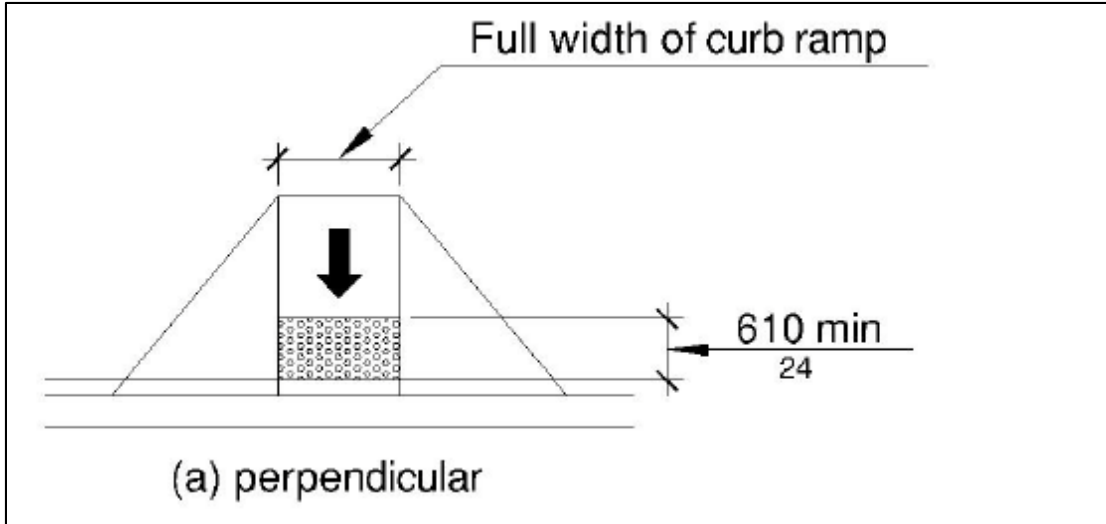

Figure 13A - Detectable Warning Surface Placement (Perpendicular Curb Ramps)
- Detectable warnings are provided on all intersection curb ramps, blended transitions, and pedestrian refuge islands along the entire length of curb removal (see **Figure 13A**)
- Detectable warnings are 2 ft. in depth (see **Figure 13A**)
- Detectable warnings are installed perpendicular to the path of pedestrian travel and appropriately placed relative to the grade break location (see **Figures 13A and 13B**)